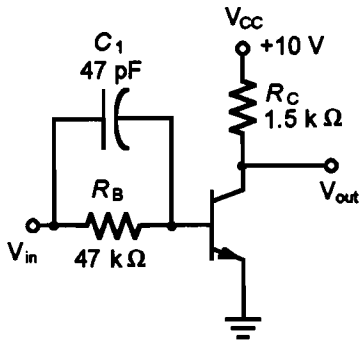

Figure 35.4
9. Turn off circuit power. Install a 47 pF speed-up capacitor in parallel with  $R_B$ . See Figure 35.4.